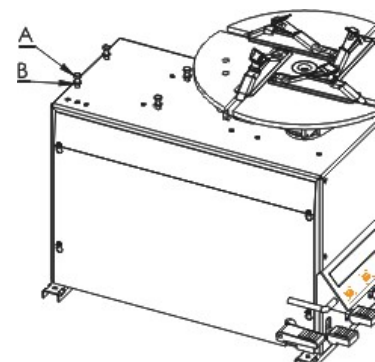

Fig. 4
- First, remove the bolts (A, fig.4) and washers (B, fig.4).